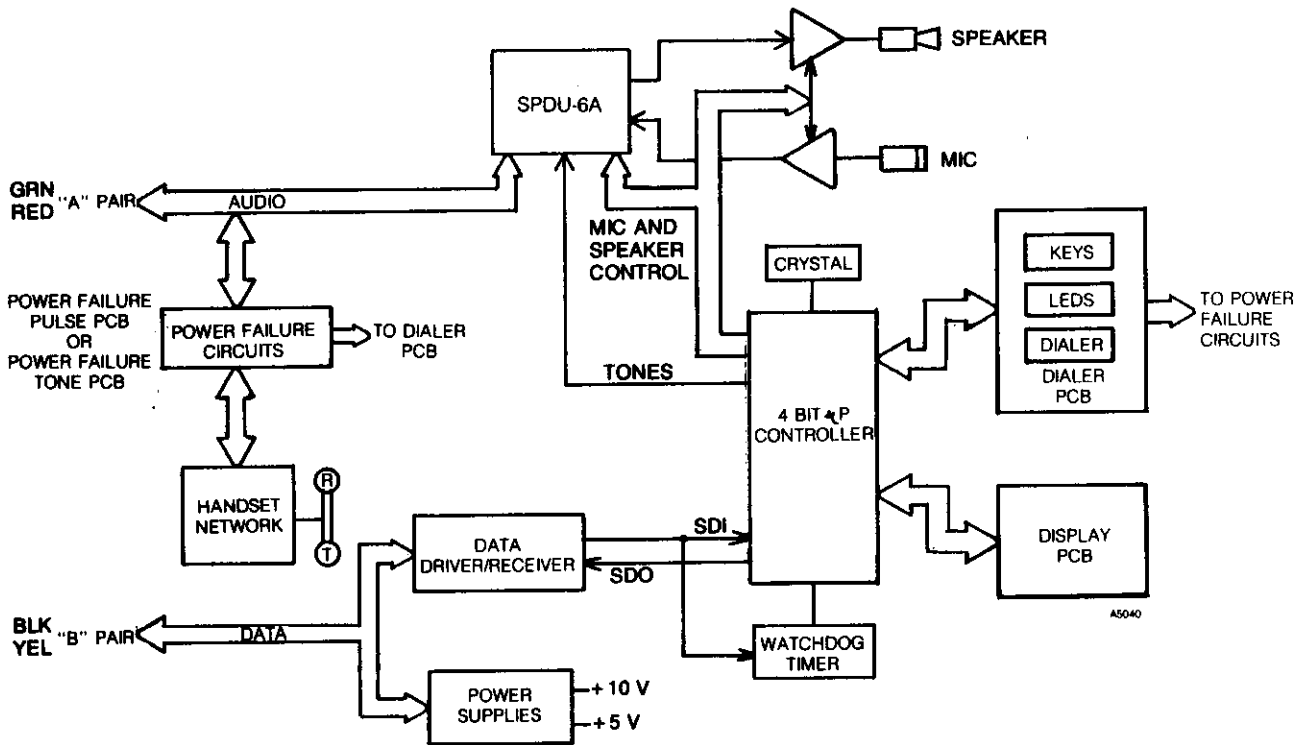

Figure 7-12 EXECUTIVE DISPLAY KEY TELEPHONE BLOCK DIAGRAM, EK-616
8.06 The circuitry in the Executive Display Key Telephone (Figure 7-12) is similar to that in the Standard Key Telephone, with the addition of the Power Failure (DP or DTMF) PCB and the display components. All display telephones use the SPDU PCB to allow Handsfree communication on outside (CO) calls.